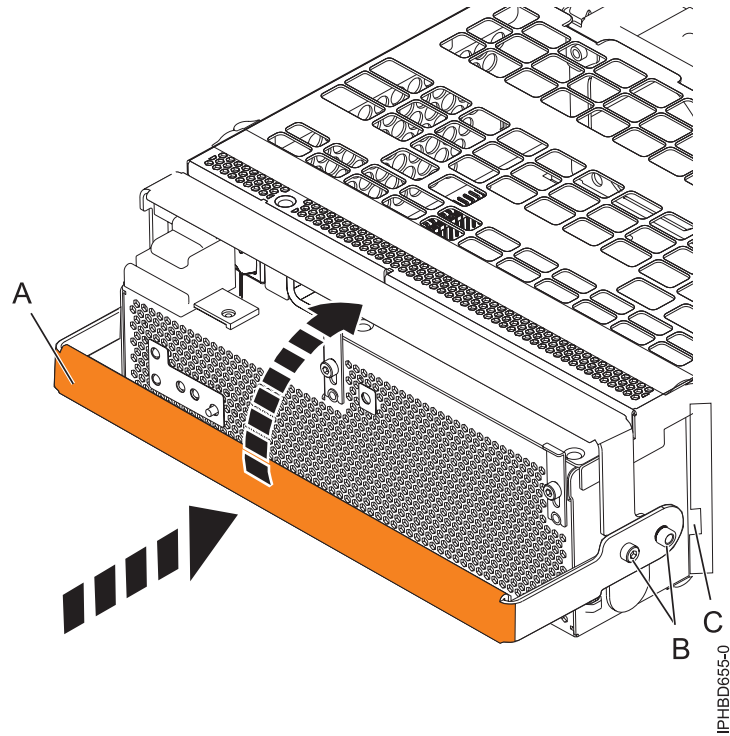

Figure 59. Replacing a power supply
10. To replace the power supply, with the locking handle (A) in the open position, push the power supply into the expansion unit as shown in Figure 59 on page 75.
11. Close the locking handle (A) until the power supply locks into position.